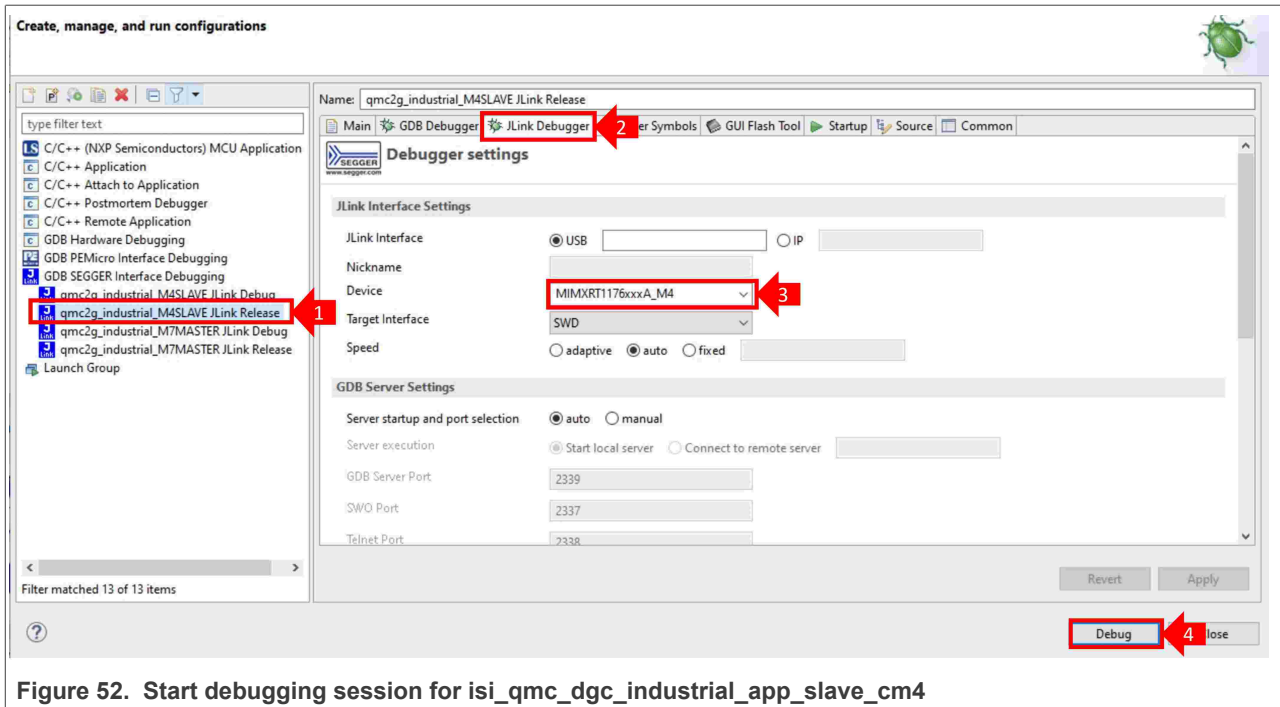

Figure 52. Start debugging session for isi\_qmc\_dgc\_industrial\_app\_slave\_cm4
7. Start a debugging session for *isi\_qmc\_dgc\_industrial\_app\_slave\_cm4* following the same steps described for *isi\_qmc\_dgc\_industrial\_app\_master\_cm7* (Step 4). Select the appropriate debugging configuration as shown in Figure 52:
- (1) Select the *isi\_qmc\_dgc\_industrial\_app\_slave\_cm4 J-Link Debug* configuration under *GDB SEGGER Interface debugging*;
- (2) Open the *J-Link debugger* tab;
- (3) Check that the *J-Link interface settings* are set as in Figure 52. In particular, the *device* field should have the value *MIMXRT1176xxxM4*; Uncheck the "Attach to a Running Target" option.
- (4) Click the *Debug* button to start debugging the software. Wait a few seconds for MCUXpresso to load the software image in the daughter card.